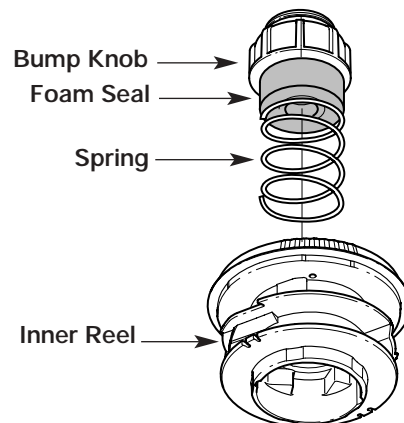

Fig. 46
1. Turn the bump knob counterclockwise and remove the bump knob, spring and foam seal (Fig. 46).
4. Hold the inner reel in place and install the bump knob, spring and foam seal. Press down and turn the bump knob clockwise. Grasp the ends and pull firmly to release the line from the holding slots in the inner reel (Fig. 46).
2. Pull out the bump knob, spring and foam seal (Fig. 46).
7. Place the bump knob, spring and foam seal into the inner reel (Fig. 46).